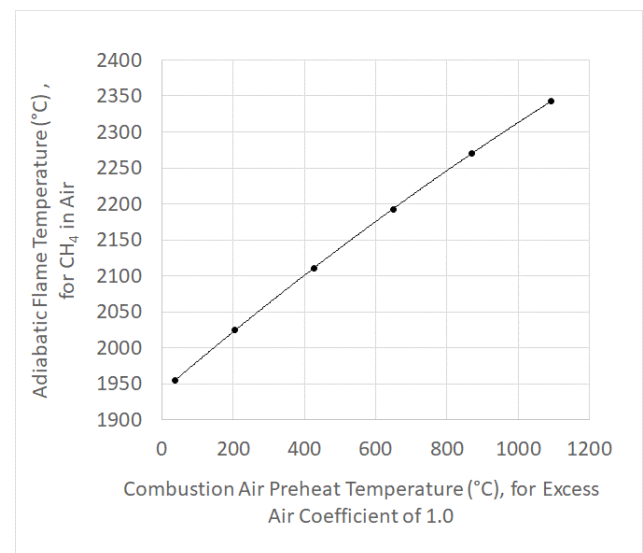

Fig 2
4. Preheating of the fuel and air for combustion, T_1 , also contributes to increasing the flame temperature. Given the quantity of air required for complete combustion is in the order of 9-10 times the quantity of fuel, preheating of the combustion air results in a much larger increase in flame temperature than preheating of fuel. The impact on flame temperature from preheating combustion air is shown here in figure 2.
of the product surface exposed to the flame, T_p , must be minimised. Therefore it is important that the product cascades rather than slides to ensure product from the core of the charge is brought to the surface and in contact with the bricks. As can be seen in Figure 2 the product takes up less than half the kiln circumference meaning that the bricks receive more of the direct radiation from the flame than the product. As a result the product receives more heat by conduction in contact with the bricks than by direct radiation from the flame. Therefore cooling of the bricks as they pass under the cascading product is important to help maximise heat transfer to the brick and in turn to the product.